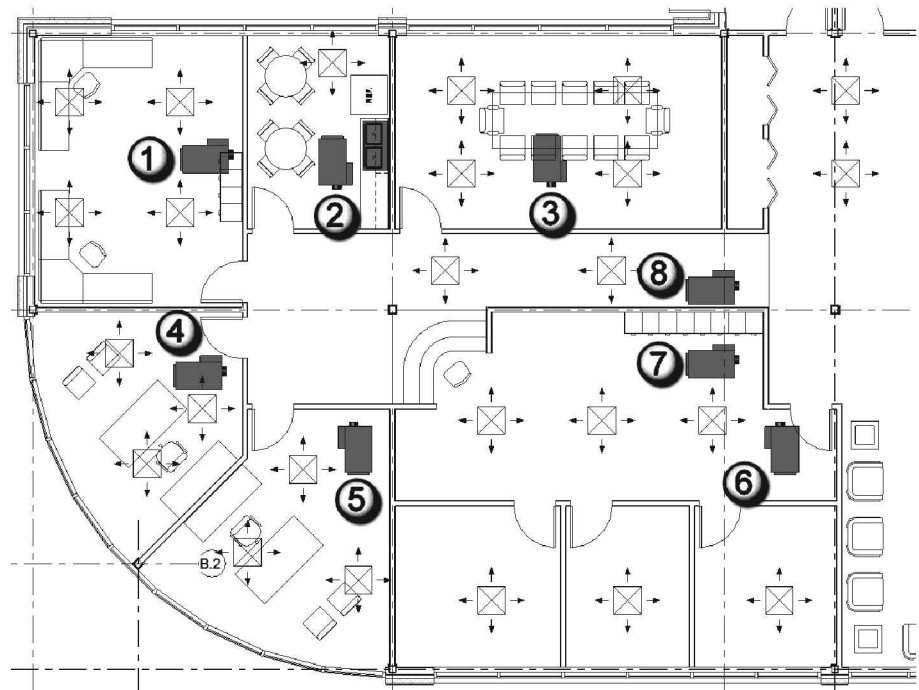

FIGURE 13-4.2
10. Use *Copy/Rotate* to place seven more VAV boxes as shown in Figure 13-4.2; move the two in the *Exec. Offices* up 1'-0"; you will have 8 total.
20. Create **seven** more *Systems* using the same naming convention and the numbers provided in Figure 13-4.2.